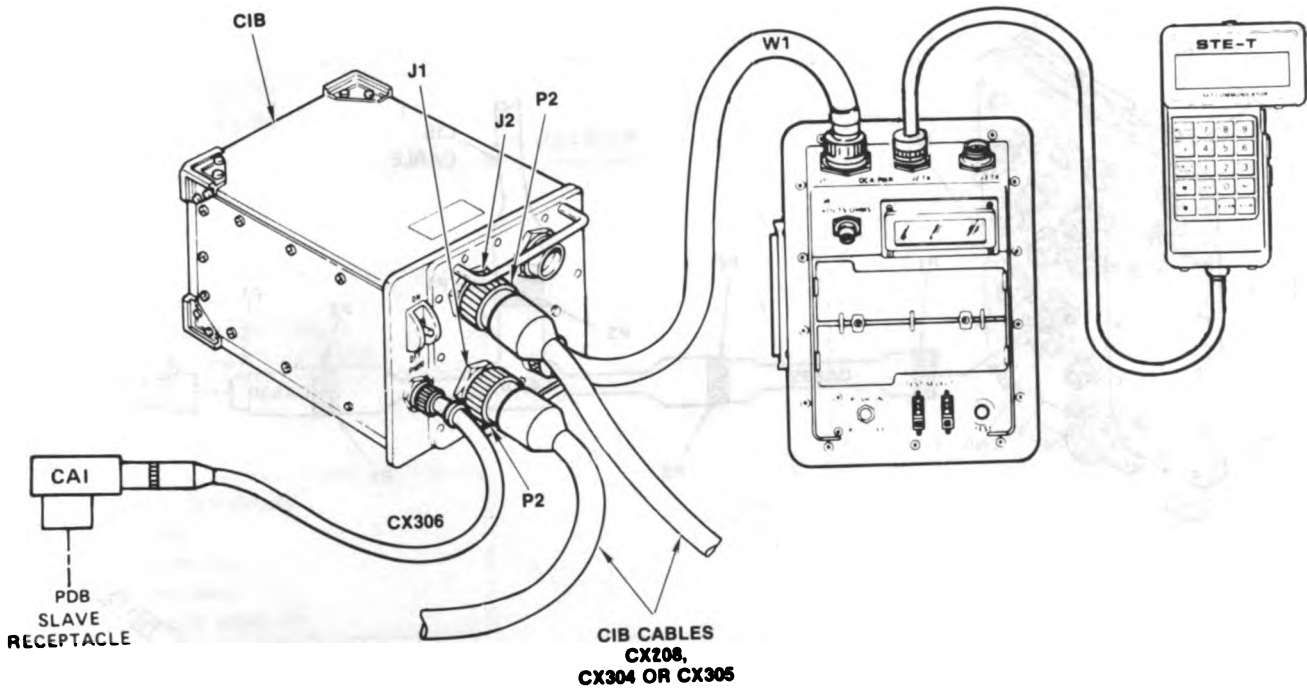
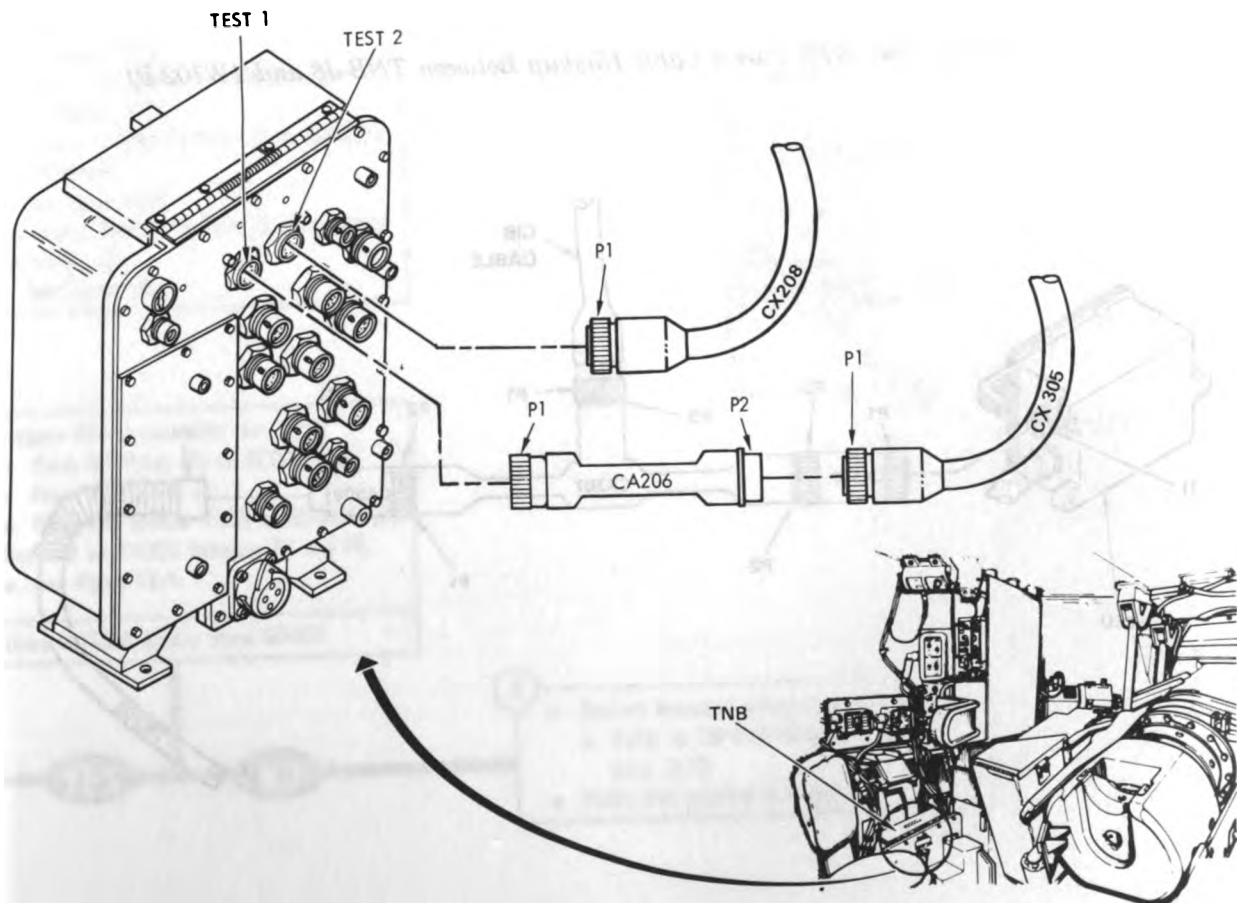

Figure 10-2. STE Turret Cable Hookup to CIB
Figure 10-3. STE Turret Cable Hookup to TNB TEST 1 and TEST 2
CONNECT CIB J1 (CX305) TO TNB TJ1 (CA206)	<ul style="list-style-type: none"> ● Connect P1 on adapter CA206 to TEST 1 on turret networks box. ● Connect P1 on CIB cable CX305 to P2 on adapter CA206. ● See figure 10-3. ● Connect P2 on CIB cable CX305 to J1 on CIB. ● See figure 10-2.
CONNECT CIB J2 TO TNB TJ2 (USE CX208)	<ul style="list-style-type: none"> ● Connect P1 on CIB cable CX208 to TEST 2 on turret networks box. ● See figure 10-3. ● Connect P2 on CIB cable CX208 to J2 on CIB. ● See figure 10-2.
CONNECT CX304 TO CIB J2	<ul style="list-style-type: none"> ● Connect P2 on CIB cable CX304 to J2 on CIB. ● See figure 10-2.
REMOVE CX208 FROM CIB AND TANK	<ul style="list-style-type: none"> ● Disconnect P1 on CIB cable CX208 from TEST 2 on turret networks box. ● See figure 10-3. ● Disconnect P2 on CIB cable CX208 from J2 on CIB. ● See figure 10-2.
- See figure 10-2.
- See figure 10-3.